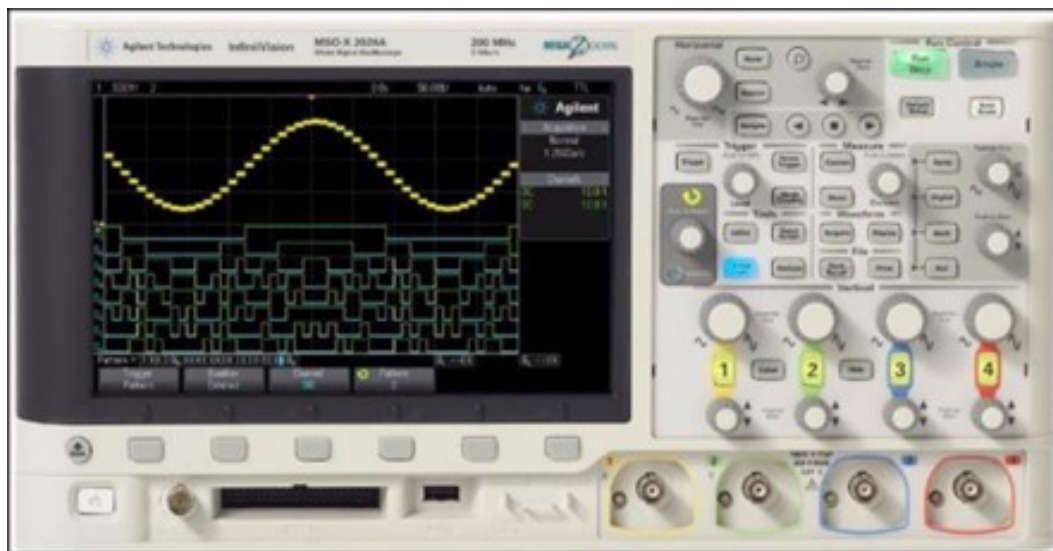

Figure 86: An oscilloscope with a built-in function generator.
A laboratory function generator is an instrument capable of generating voltages that vary with different waveforms. The function generator also allows you to set the amplitude and frequency of the generated signal. The function generators in the CAEC lab are built into the oscilloscopes (Figure 86).
An oscilloscope (Figure 86) is used to monitor varying voltages in a circuit. It plots a continuous graph with time on the x-axis and the measured voltage on the y-axis. Oscilloscopes also have the capability of measuring the frequency, amplitude and rise/fall time of voltage signals. Both the function generator and the oscilloscope are connected via BNC cables (Figure 14 (c)). The other side of a BNC cable is pair of crocodile clips. The red side is used to measure/supply the voltage and the black is connected to ground.
1. The circuit is prepared on a breadboard using 3 $10\ \Omega$ resistors, 2 in parallel and the 3rd in series as shown in Figure 86.